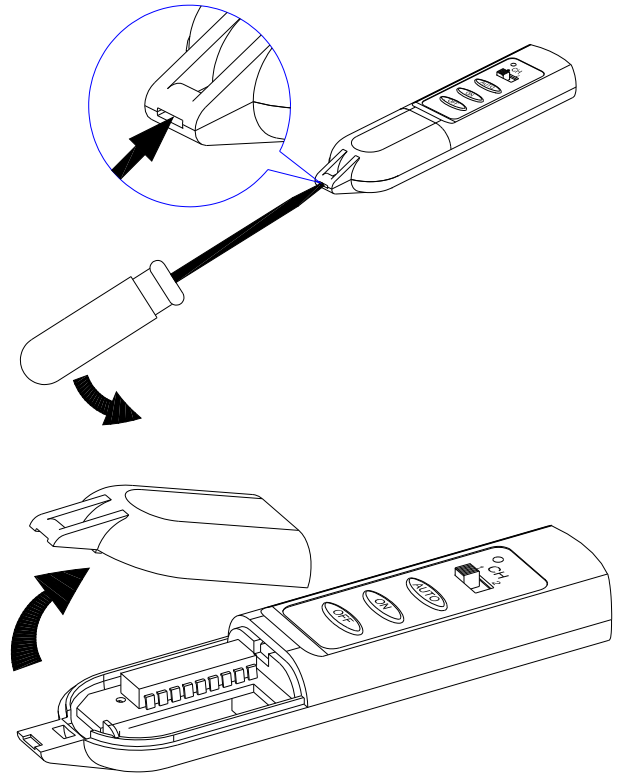

FIGURE 11
- (1) By using a flat blade screwdriver to detach the battery cover from the cabinet. (FIGURE 11)